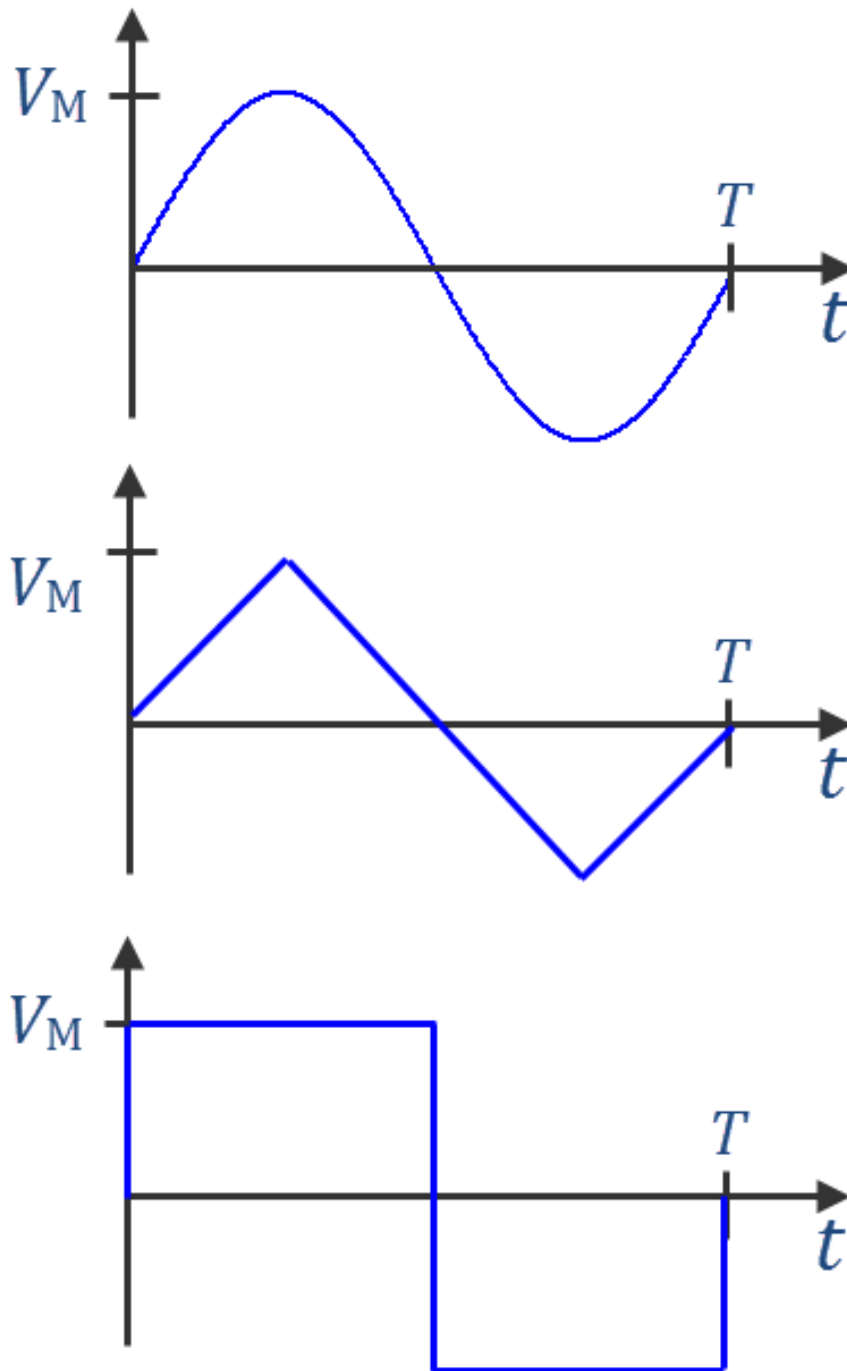

Figure 1.7: Input waveforms for Problem 1.6 on page 33, Problem 1.8 on page 39, and Problem 2.9 on page 83
- Plot two periods of $v_i(t)$ and $v_o(t)$ for each of the three input waveforms shown in Figure 1.7 on page 37.
1. Plot two periods of $v_i(t)$ and $v_o(t)$ for each of the three input waveforms shown in Figure 1.7 on page 37.
2. Plot two periods of $v_i(t)$ and $v_o(t)$ for each of the three input waveforms shown in Figure 1.7 on page 37.